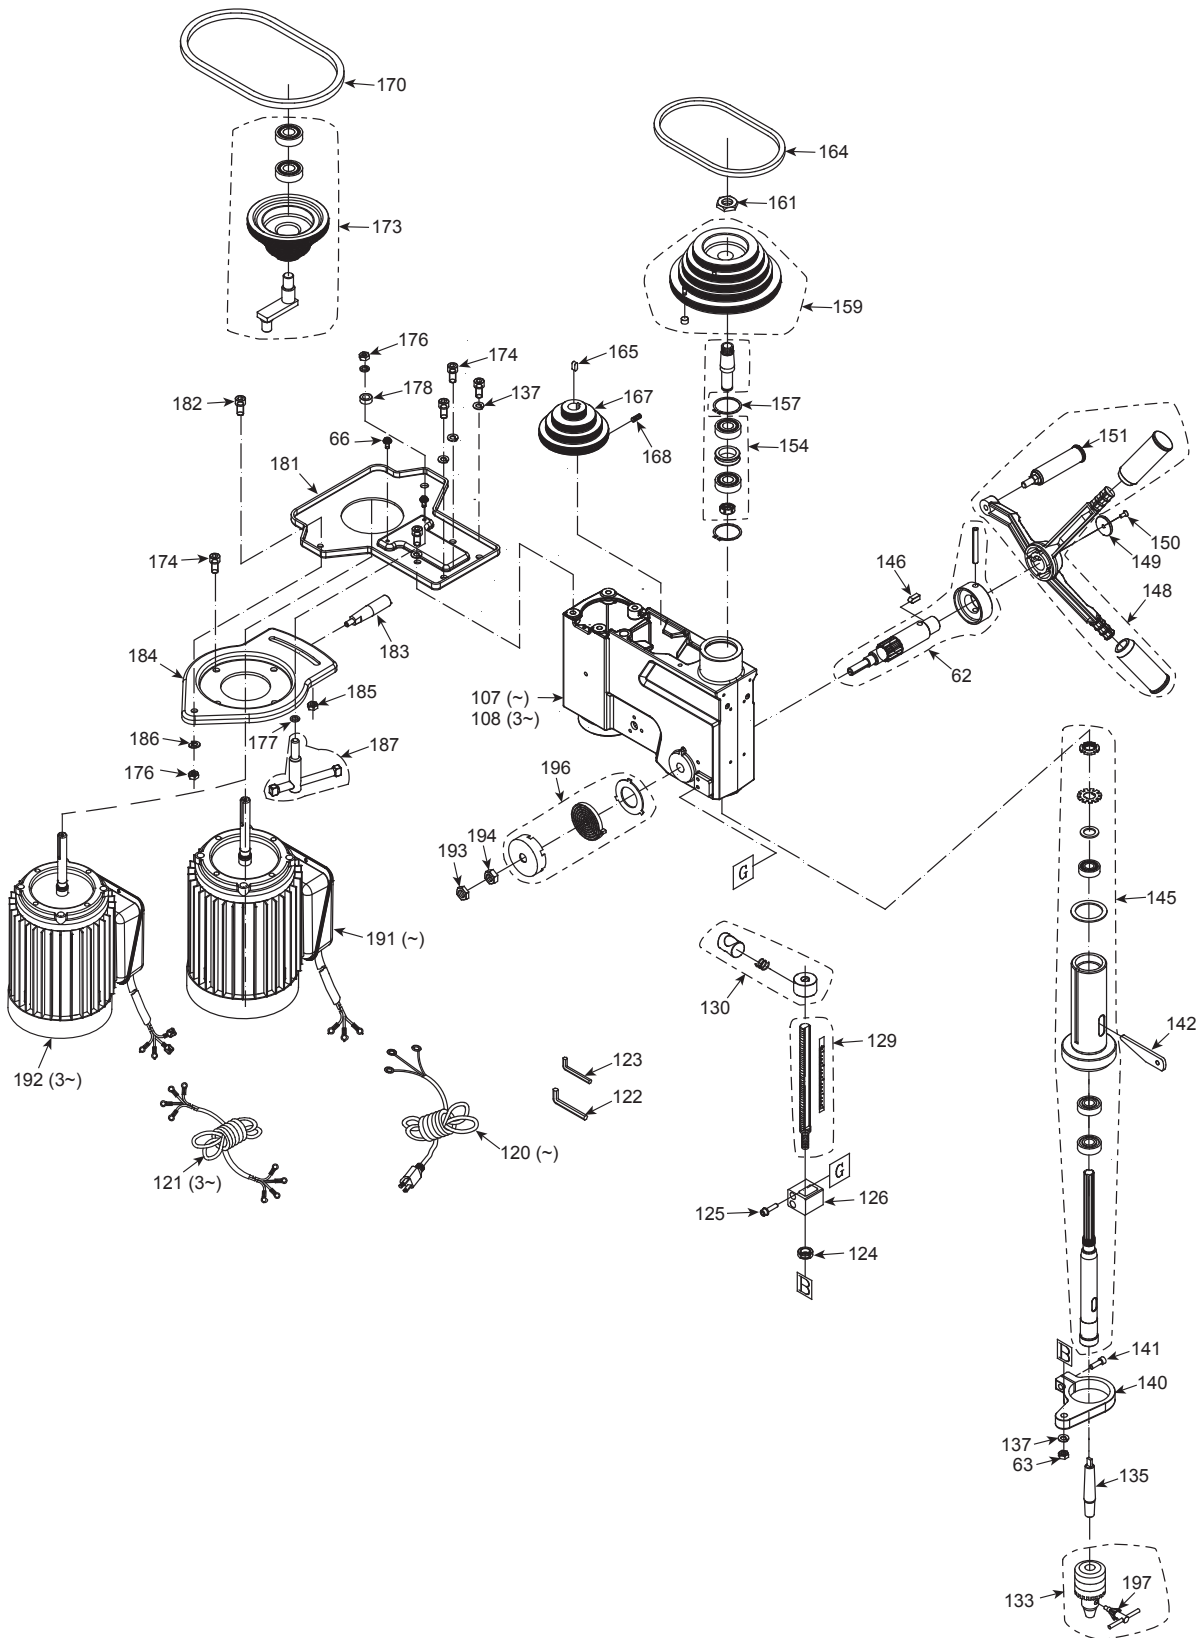

Figure 8 - Replacement Parts Illustration for Spindle and Drive (Single & Three Phase)
Refer to Figure 8.
- Lower quill assembly (Figure 8, Ref. No. 148) all the way down.
- Apply lubricant around the inside of the hole in the spindle pulley (Figure 8, Ref. Nos. 159 & 173).
- Apply lubricant to rack (teeth) on quill (Figure 8, Ref. No. 145) while extended below drill press head.